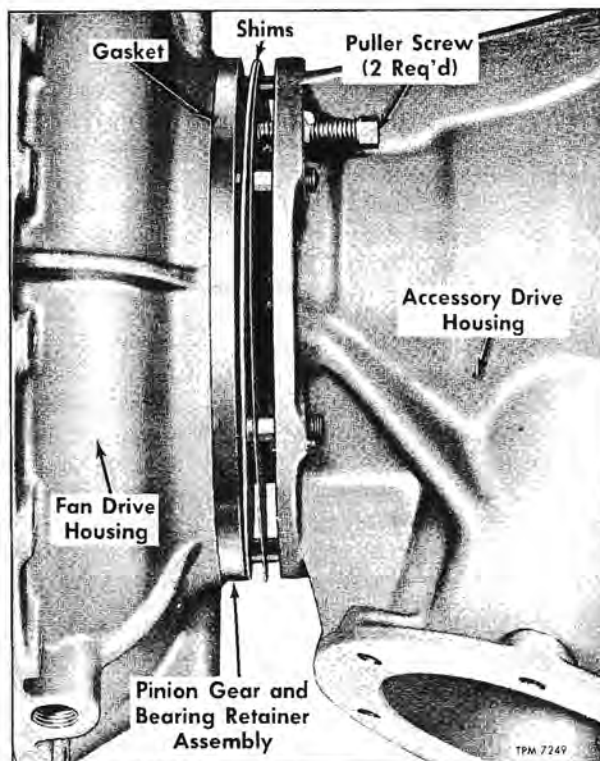

Figure 115—Shims Installed Between Accessory Drive Housing and Pinion Gear Retainer
Shims (5 and 19) are available in three thicknesses (0.003", 0.010", and 0.031") for adjustment of backlash and tooth contact of bevel pinion and bevel gear. Figure 115 shows shims installed between accessory drive housing and pinion gear retainer. Whenever assembling accessory drive unit or installing new pinion and bevel gear, or in event it should become necessary to readjust gear backlash because of normal wear, the following operations must be accomplished to properly adjust the pinion and bevel gear backlash.
(21) and accessory drive housing (20). Figure 115 shows shims (19) installed between pinion gear bearing retainer and accessory drive housing. This view also shows puller screws used for removing bearing retainer from accessory drive housing.